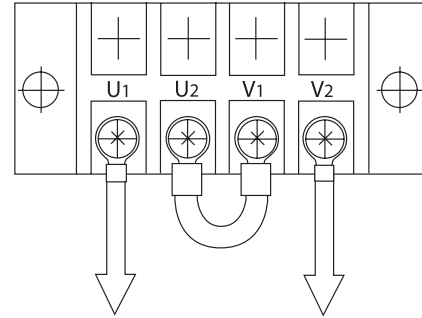

Figure 29: Output Terminal Board, 240 Volt Output
- b. Connect U2 to V1 on the output terminal board (Figure 29).